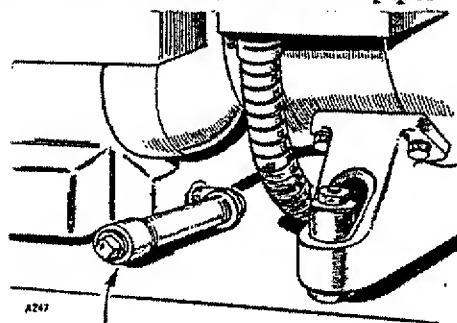

Fig. 4 Oil Drain Extension
**OIL DRAIN EXTENSION.** - The oil drain extension may be changed to the opposite side, if more convenient. Disassemble at the elbow, turn the elbow in 1/2 turn to point in the opposite direction, and re-assemble. See Fig. 4.